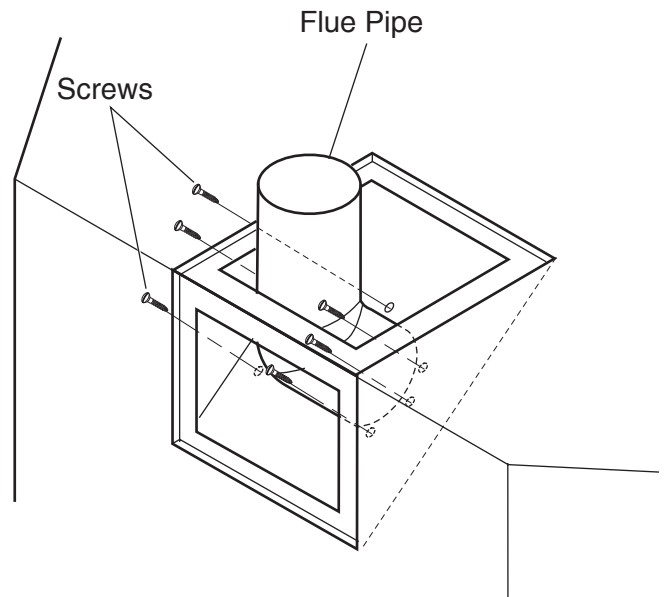

Figure 11 - Attaching Flue Pipe to Top Vent Configurations
5. Replace flue pipe to top of firebox. Ensure the gasket is in place and undamaged. Secure with six (6) screws. See Figure 11.
7. Refit the flue pipe adapter and gasket to the top of fireplace. Secure the adapter with six (6) screws removed in step 1.